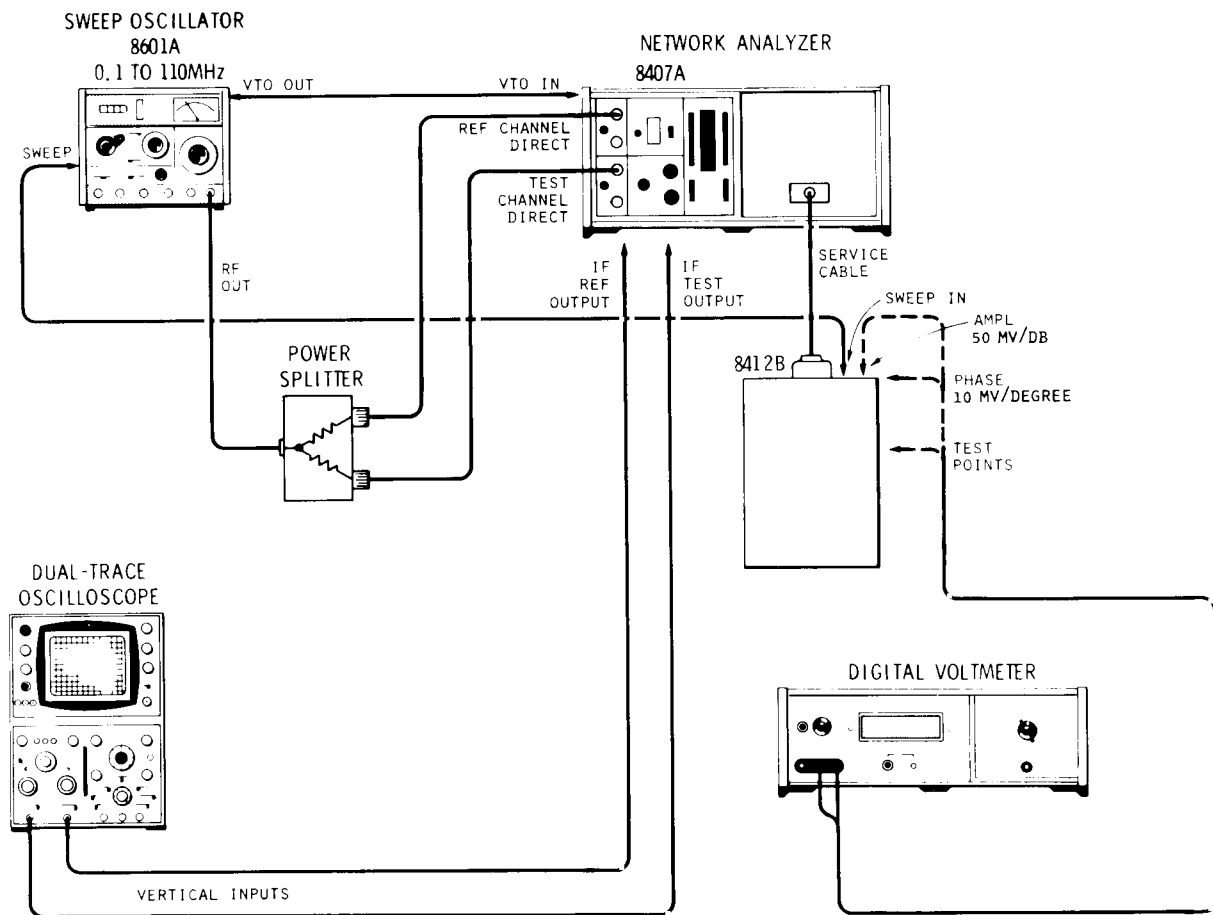

Figure 5-3. Equipment Setup for Adjustment Procedures with 8407A Mainframe
- a. Connect equipment as shown in Figure 5-3. Set sweep oscillator for swept mode with sweep width of 10 kHz or less. Set the 8407A AMPL VERNIER to midrange and both DISPLAY REFERENCE switches to top position. Set DISPLAY REFERENCE CAL so that zero dB is at the top on both scales. Set 8407A REF CHAN LEVEL switch to the middle position. Adjust sweep oscillator RF output for REF CHANNEL LEVEL meter indication at the top of the OPERATE range.
- a. Connect equipment as shown in Figure 5-3. Set controls as follows: